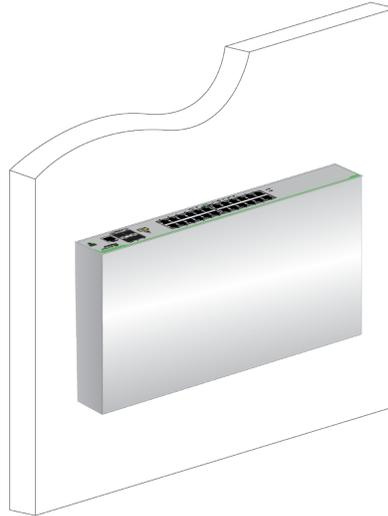

Figure 25. Correct Wall Installation
- The switch must be mounted on the wall in portrait orientation with the front panel facing up. See Figure 25.